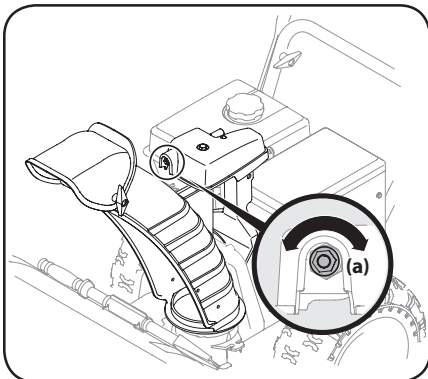

Figure 4-13
1. To increase preload, tighten hex nut (a) clockwise in ¼ turn intervals. The chute control rod will need to be held stationary when tightening the nut. See Figure 4-13.